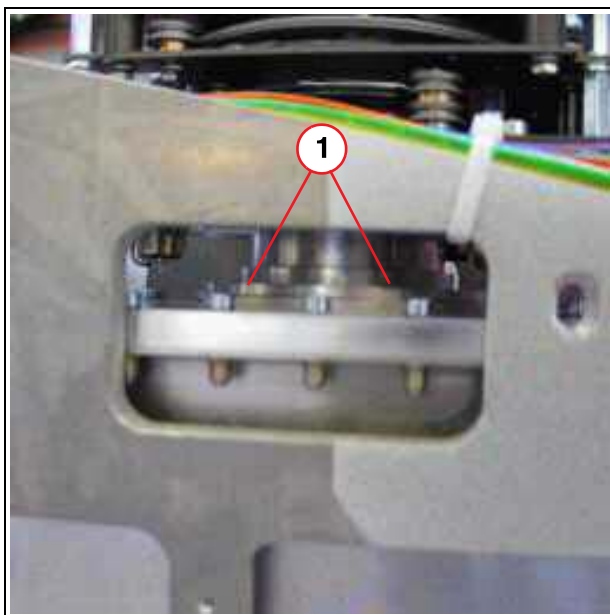

Fig. 18: Collimator_mount
2. Remove the 2 Allen screws (1/Fig. 18 / p. 42) from both sides of the collimator cut-outs and remove the collimator.